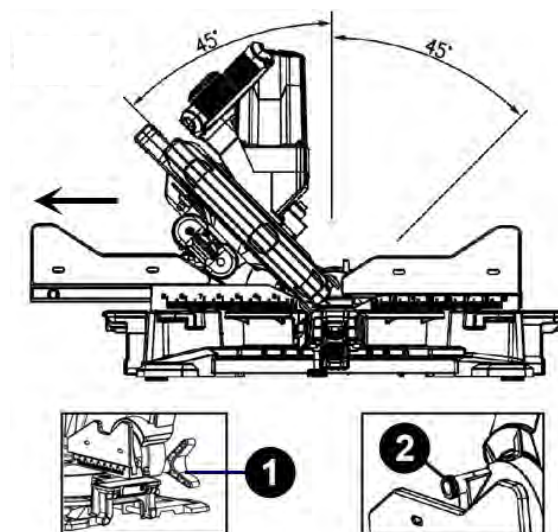

Fig. 13: Adjusting the tilt angle
If a bevel cut is required, loosen the bevel cut locking knob (Item 1, Fig. 13) by turning it counterclockwise.
**Step 1:** Pull the stop pin (Pos. 2, Fig. 13)